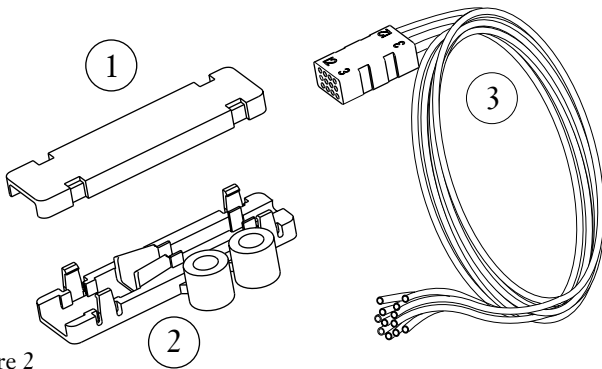

Figure 2
3.1 Each Corning Cable Systems BTF kit contains the following (Figure 2):